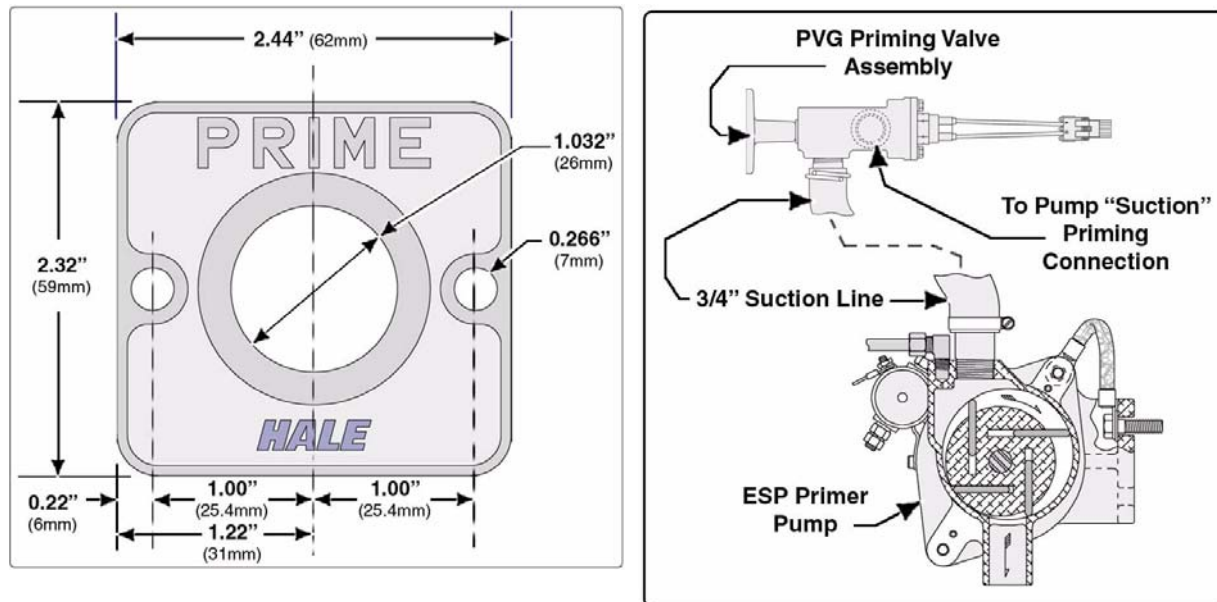

Figure 3-9: PVG Panel Placard and Valve Plumbing Layout
3. Drill or punch one 1.032" (26 mm) and two 0.266" (7 mm) diameter holes in the panel. (See Figure 3-9: "PVG Panel Placard and Valve Plumbing Layout.")
4. Install the PVG panel placard and valve body to the operator's panel. (See Figure 3-9: "PVG Panel Placard and Valve Plumbing Layout.")
5. Secure the assembly with two (2) 1/4"-20 screws. Apply a drop of Loctite #246 to each screw.
9. Install another 3/4" NPT x 1/2" compression hose fitting, rated at 250 PSI minimum, into the side of the PVG valve and connect hose between the valve and the suction side of the pump. (See Figure 3-9: "PVG Panel Placard and Valve Plumbing Layout.")